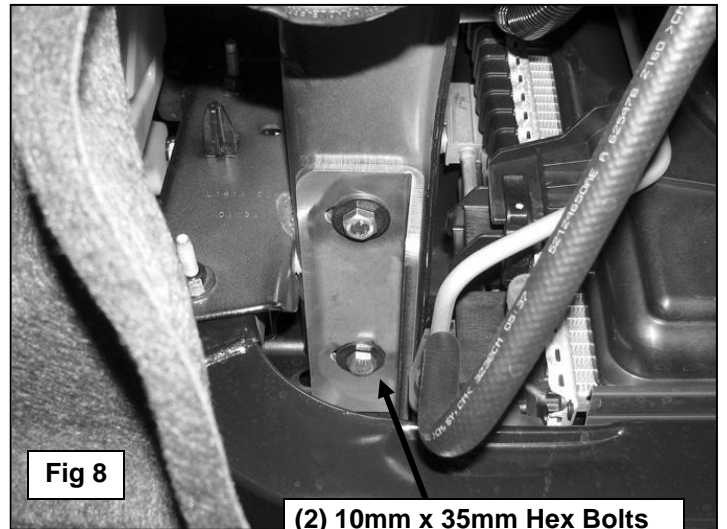

Fig 8
- Select the driver side Frame Mounting Bracket. Line up the (2) slots in the bracket with the (2) threaded holes in the bottom of the frame channel, **(Figure 7)**. Bolt the Bracket to the frame channel with (2) 10mm x 35mm Hex Bolts, (2) 10mm Flat Washers and (2) 10mm Lock Washers, **(Figure 8)**. Do not tighten hardware at this time. Repeat this step for passenger side Frame Bracket installation.